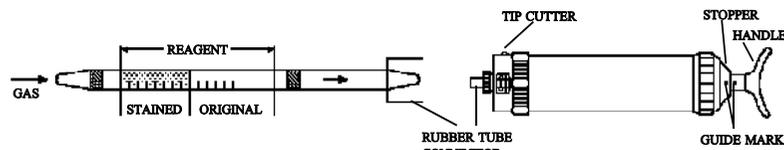

Fig.1
- ① Break both ends of detector tube.
- ② Insert the detector tube into aspirating pump securely as shown in Fig.1. (Arrow mark shall point to the pump.)
- ③ Align the guide marks on the shaft and stopper of the aspirating pump.
- ④ Pull the pump handle at full stroke (100ml) until it locks and wait for 1.5 minutes as it is or until the sampling is confirmed as to be completed. (See descriptions of the flow indicator in the pump instruction manual.)
- ⑤ After the sampling is completed, read the scale at the top of the stained layer. True concentration of Ethyl acetate can be obtained after temperature correction.
- ⑥ In case of **Methyl acetate** measurement, convert the reading value by using the conversion chart undermentioned.